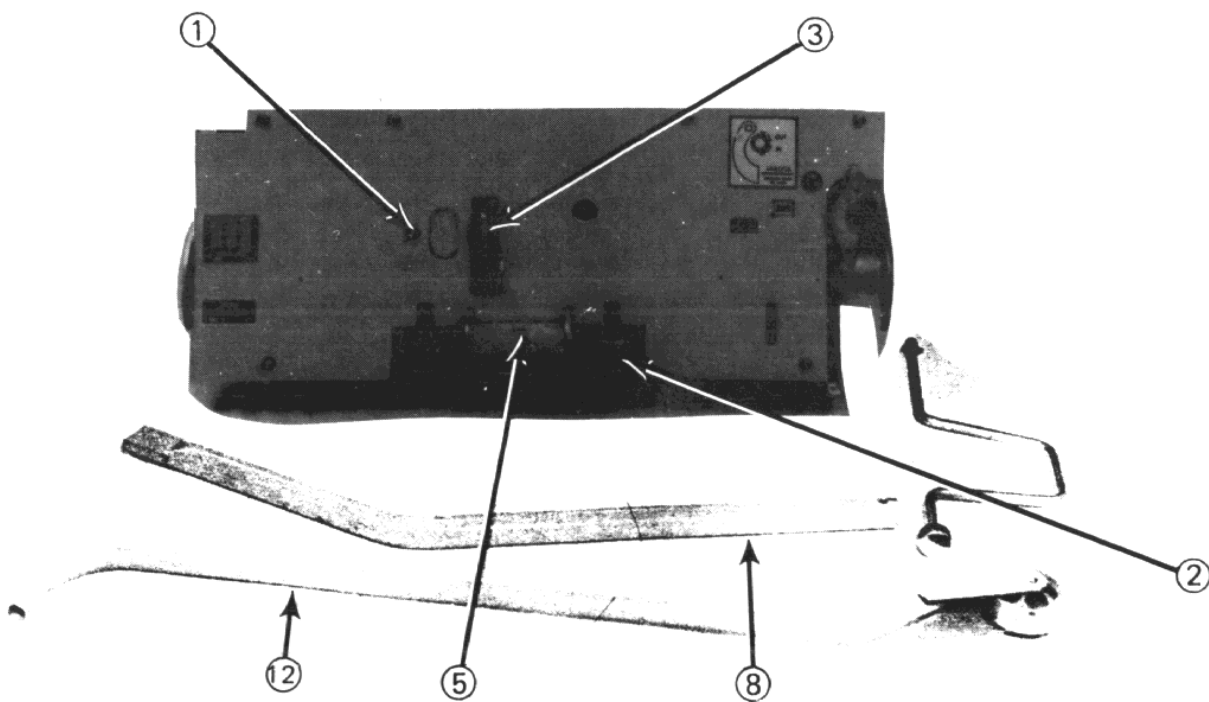

Fig. 3 — Front Circuit Breaker Panel & Accessories
Installing Circuit Breaker into Compartment (See Figs. 3&4)
Turn motor disconnect switch (1, Fig. 3) to "OFF" position.
For installing the circuit breaker into the lower compartment, the fifth wheel is used to position the breaker so that it is lined up with the switchgear. Engage the fifth wheel (12, Fig. 3)
with hole (5, Fig. 3). The lift device is required to lift and position the breaker for installation into the upper compartment. Guide and push circuit breaker into compartment until stopped. Again engage racking crank and rotate clockwise until racking mechanism automatically stops at "DISCONNECT" position. (Breaker is now held captive in compartment.)
With the circuit breaker racked to "TEST" position, it should be checked for proper operation by operating all possible means of opening and closing, this includes control switches, relays, etc. Turn motor disconnect switch (1, Fig. 3) to "ON" position to charge the closing springs, and operate the breaker as required.
2. Fully closed breaker (See Fig. 3). Charge the closing springs and turn the motor switch (1) off. Close the breaker. Engage manual charge handle (8) with charging lever (3).